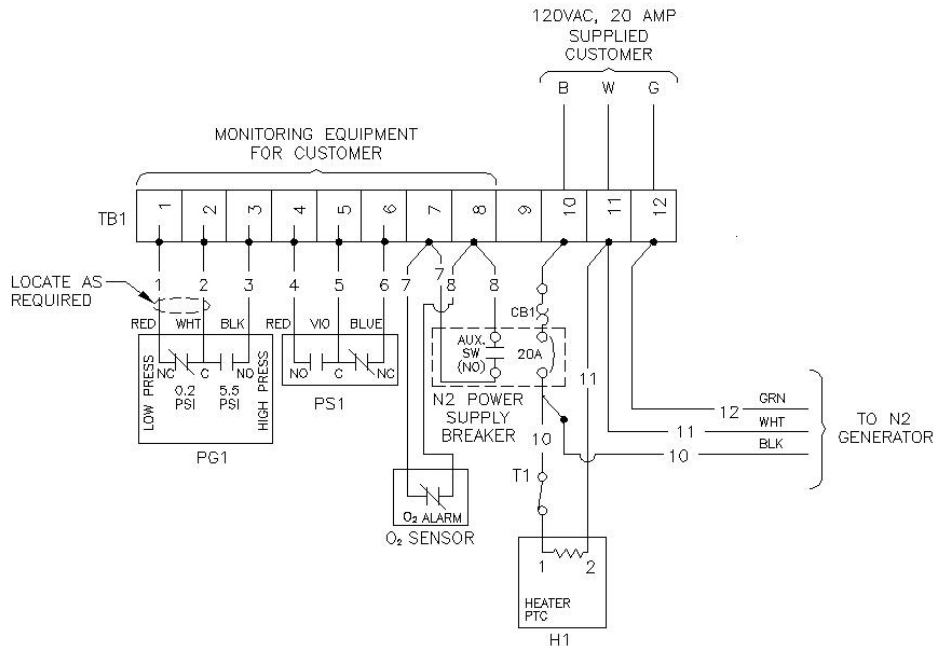

Figure 3. Electrical connection
2. Connect the wiring to the terminals as shown in Figure 3.